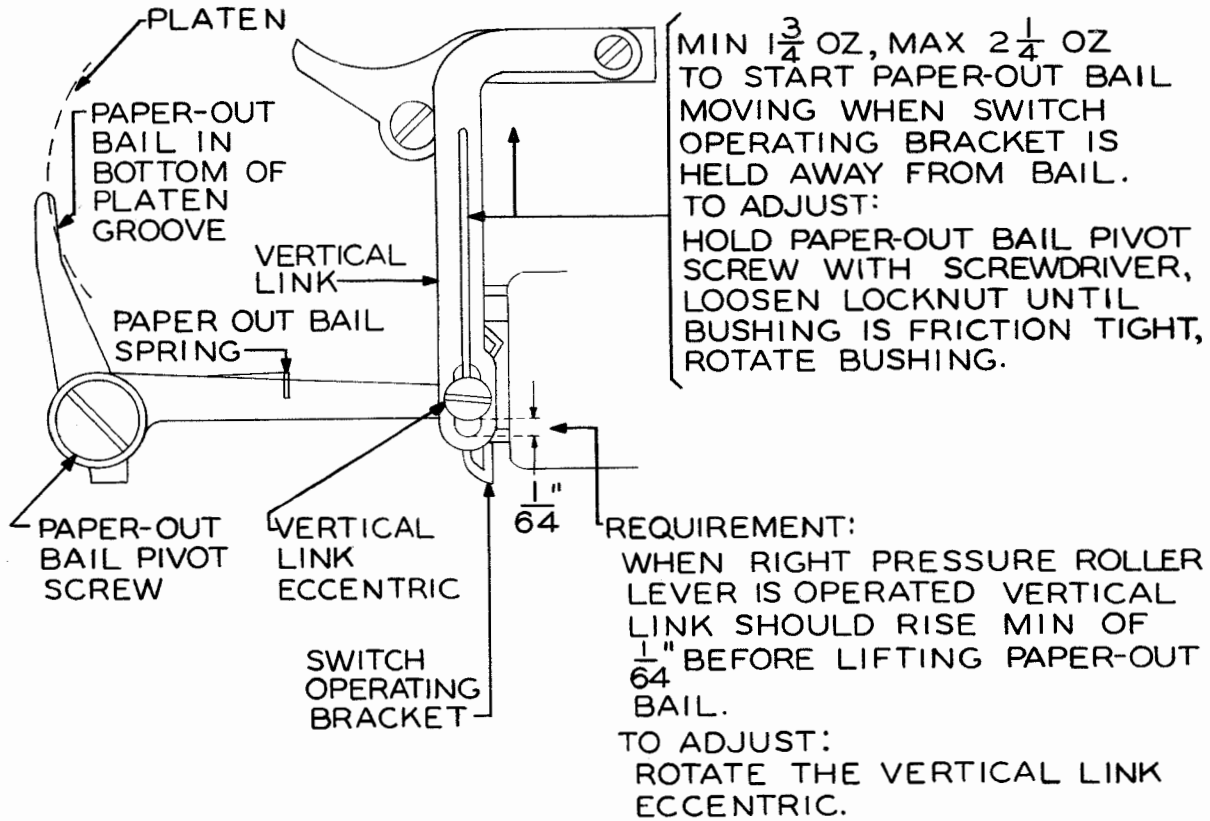

Figure 6
To Adjust: Add or remove shims. See Figures 6 and 7.
3.05 Vertical-link-eccentric: See Figure 6.